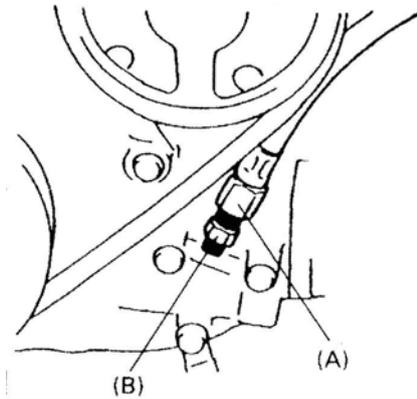

FIG. 5-26
2) Install special tool (oil pressure gauge) on the oil pressure sensor original position, as FIG. 5-26.